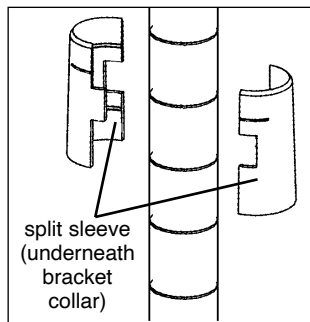

figure 3
- Snap plastic split sleeve onto post at desired shelf height (the wider part of the taper on the split sleeve is the bottom - see figure 3). Leave enough room at the bottom of the post for the wall bracket to hang.